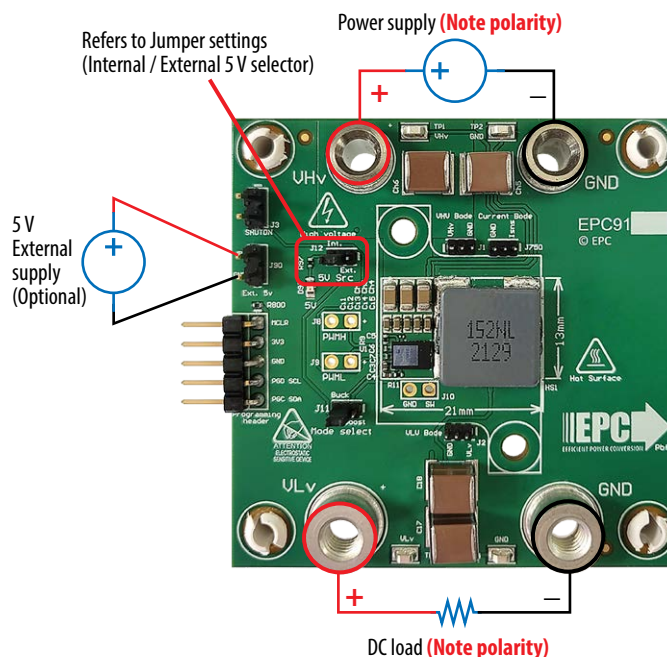

Figure 5: Power and load connections to the EPC91106 evaluation board, configured in Buck mode.
The EPC91106 can be configured to operate as a buck or boost converter. To operate the EPC91106 in buck mode (default), connect the input supply to the load as shown in figure 5.
The operating procedure is provided for **buck** mode only. The EPC91106 demonstration board is easy to set up to evaluate the performance of the EPC23104 eGaN IC. Refer to figures 5, 6, 7, 8, 9 and 10 for proper connection and measurement setup and follow the procedure below to operate the board:
2. With power off, connect the input power supply between VHV (J6) and GND (J4). Pay careful attention to the polarity as shown in figure 5. A shunt can be inserted in series with the positive supply to measure the input current. Note that shunt measurement must be floating with respect to GND.
3. With power off, connect a suitable load between VLV (J7) and GND (J5). Pay careful attention to the polarity as shown in figure 5.
4. Ensure the jumper on J12 is in position 2-3 (Ext). With power off, connect a controller power supply set to 5 V to J90. Pay careful attention to the polarity as shown in figure 5. This power supply must be capable of supplying at least 200 mA of current.